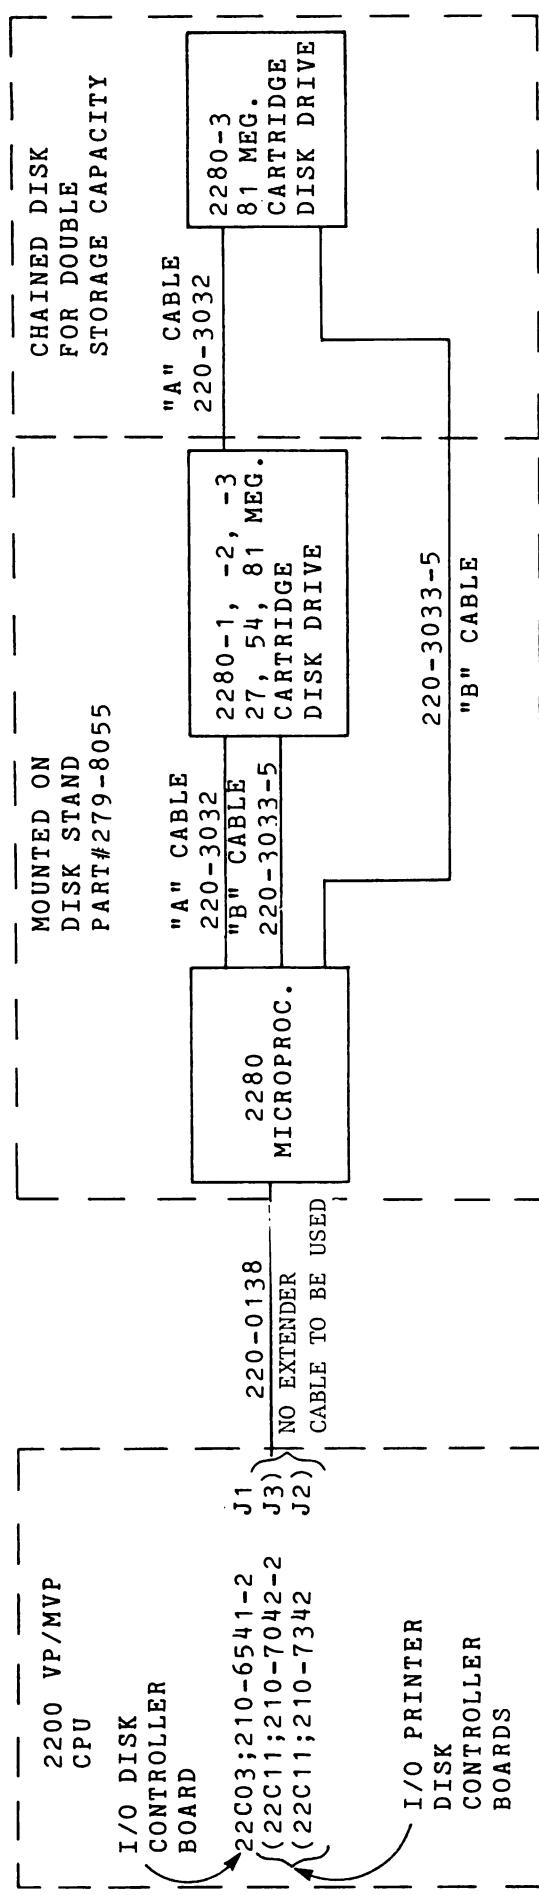

FIGURE 2 - CABLING ARRANGEMENT
2. The VP/MVP Bootstrap Proms (3) must be an R1 version.
4. A dual jack (Printer/Disk) controller may be used if single jack is not available (P/N 210-7042-2). See Figure 2 for details.
CABLE CONNECTIONS (See Figure 2)